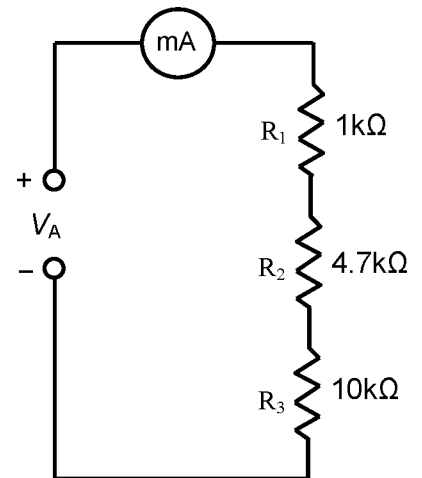

Figure 12-1
1. Connect the initial circuit as shown in Figure 12-1.